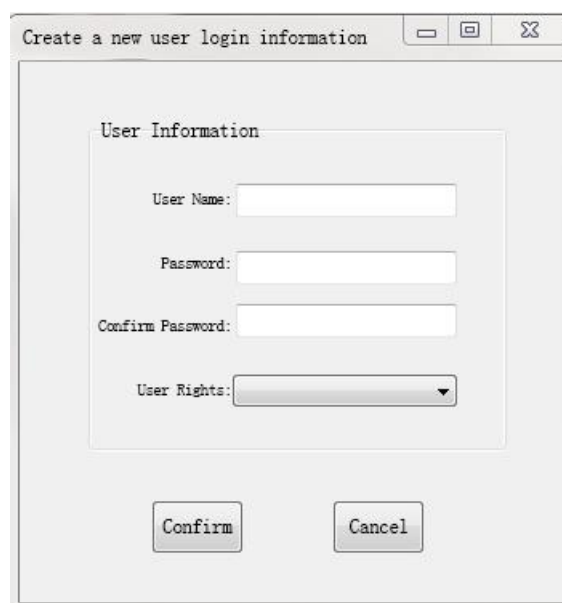

Figure 44. Create a New User
(2) Click "Create a New User" button at the lower left of the interface, enter the corresponding user code, user name, password and user rights in the pop-up dialog box, and click the "OK" button to add a new user, as shown in Figure 44.